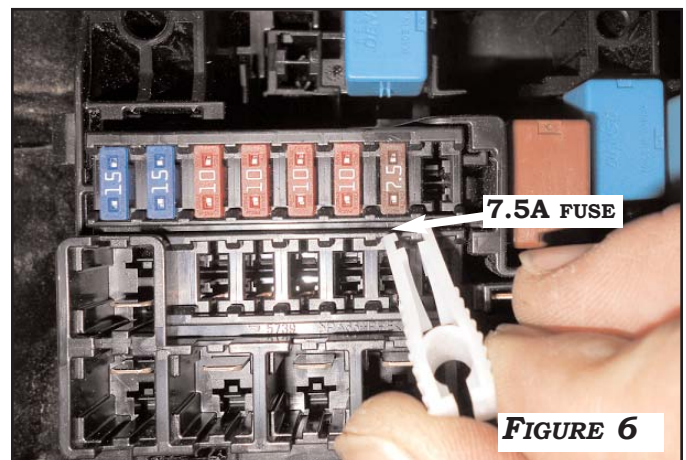

FIGURE 6
3. REMOVE THE 7.5A IGNITION FUSE AND PLACE IN SPARE FUSE HOLDER. **FIGURE 6**